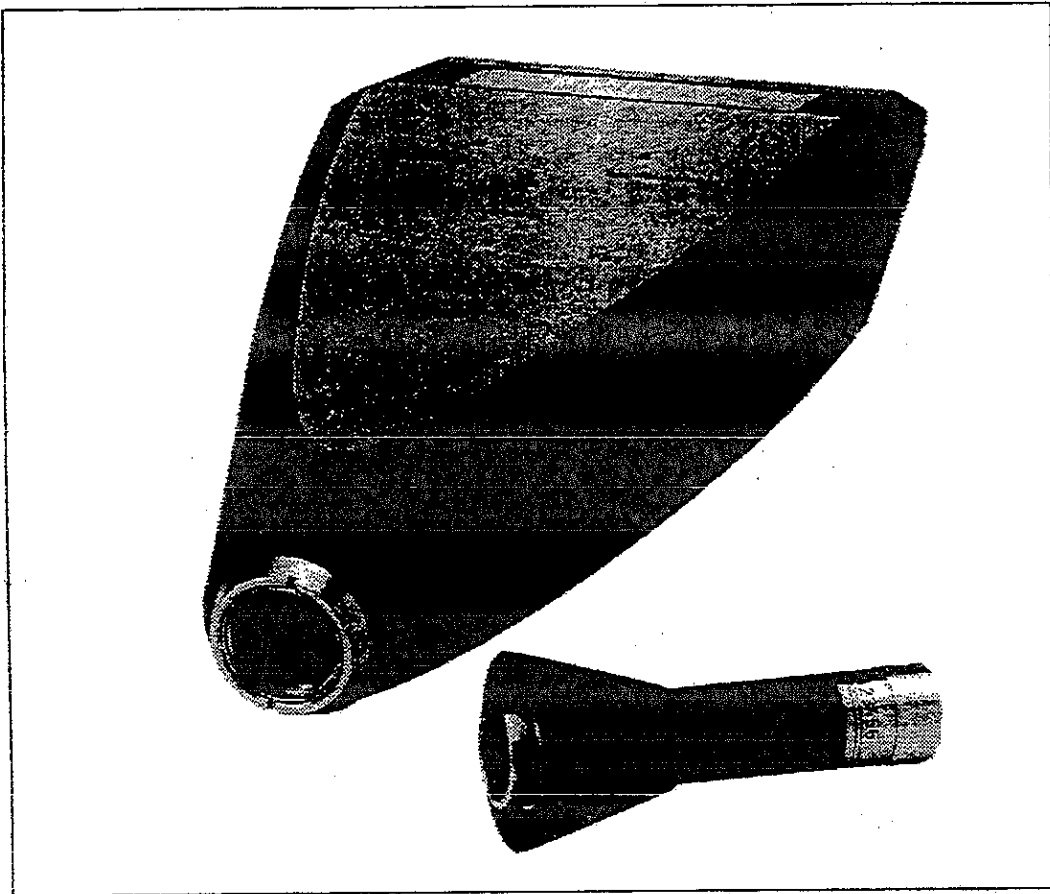

Fig. 3.1 Mounting the input stage and microphone onto the sound level meter
2. Insert the input stage into the input stage socket and secure by turning the threaded retaining ring (see Fig. 3.1).